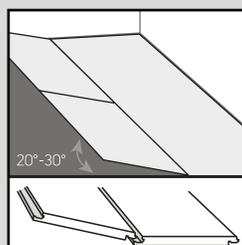

Fig. 3
4. Start the second row by clicking the tongue into the groove holding the plank at an angle (approximately 30°), then push the plank firmly into the groove of the first row. Fit the next plank by clicking the tongue and groove together on the short edge. Ease the tongue and groove together on the long side by angling the planks together (Fig. 3).